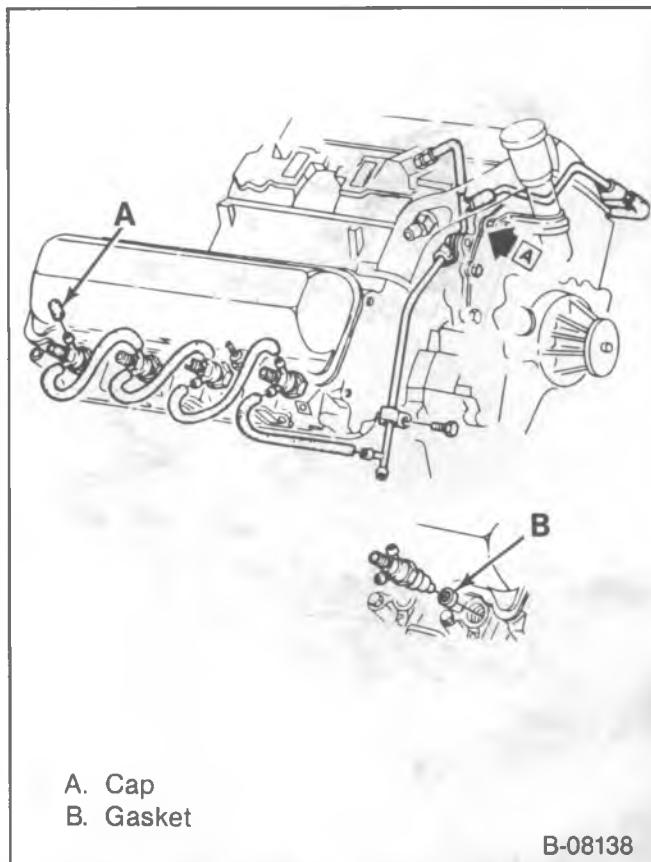

Figure 54—Injection Nozzles
**Install or Connect (Figure 54)**